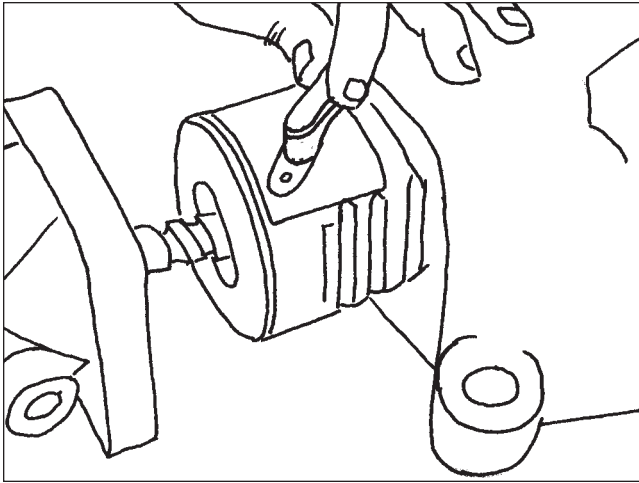

Figure 129
10. If a bolt-on retainer is used, replace the seal ring on the retainer and install it in the piston cavity. Install the mounting bolts (Figures 129 & 130).